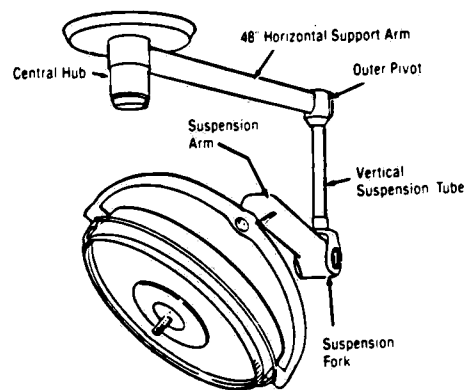

Figure 3-3. INSPECT ROTATIONS.
3.3.4 Inspect Suspension Arm Vertical Motion (See Figure 3-3)